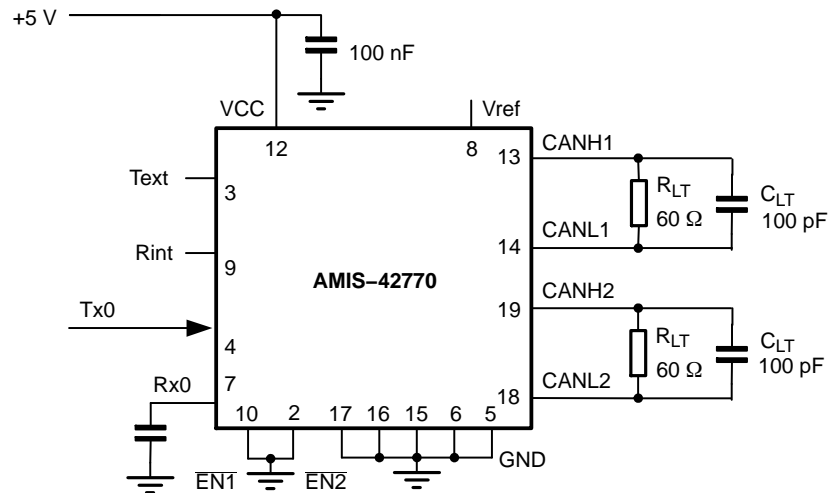

Figure 8. Test Circuit for Timing Characteristics
**TIMING CHARACTERISTICS (see Figures 8 and 9)**